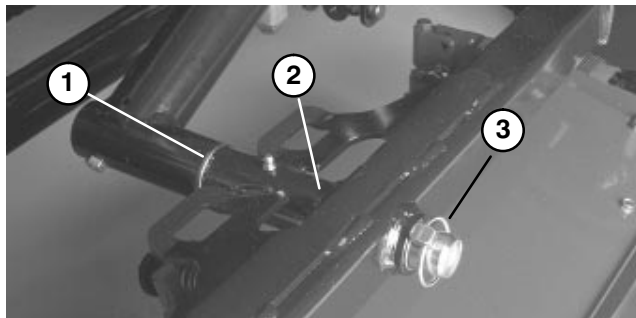

Figure 18
MOUNT CUTTING UNITS (Fig. 18–20)
2. Slide cutting unit carrier frame onto pivot rod and secure with a lynch pin (Fig. 18).